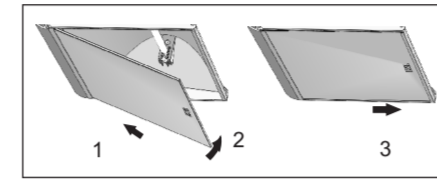

Fig. 23
8. Fit the glass sheets to the heat lamp reflector bodies Fig. 23.